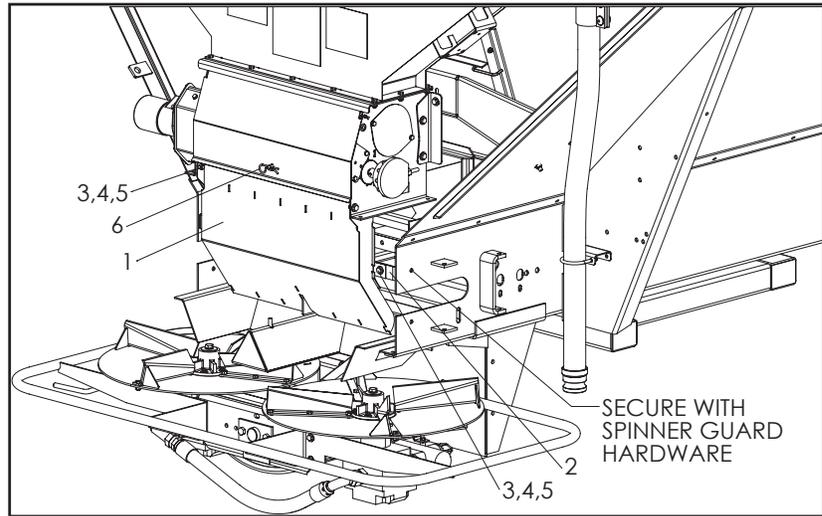

**Figure 5 – Bin Mounting**
9. Install Brackets (7 & 8) on MICROBIN as shown in Figure 5 for units without MULTAPPLIERS installed. Switch Brackets to opposite side when installing on units with MULTAPPLIERS installed. Secure using 3/8 x 1" hardware (9,11,12). Fasten to Lower Mount Bracket with remaining hardware. Tighten hardware to recommended torques.